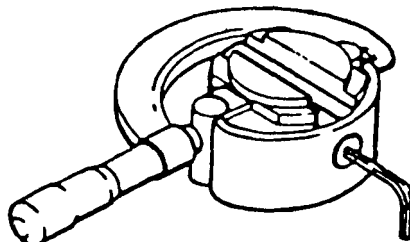

Figure 8-13. Adjusting Fuel Injection Pump Roller-to-Roller Dimension.
- (9) Adjust roller-to-roller dimension as follows: (See figure 8-13).
- (40) Assemble seal (12, figure 8-8) to groove at end of guide (13, figure 8-13) and install speed droop cap assembly (11, figure 8-8) over seal.